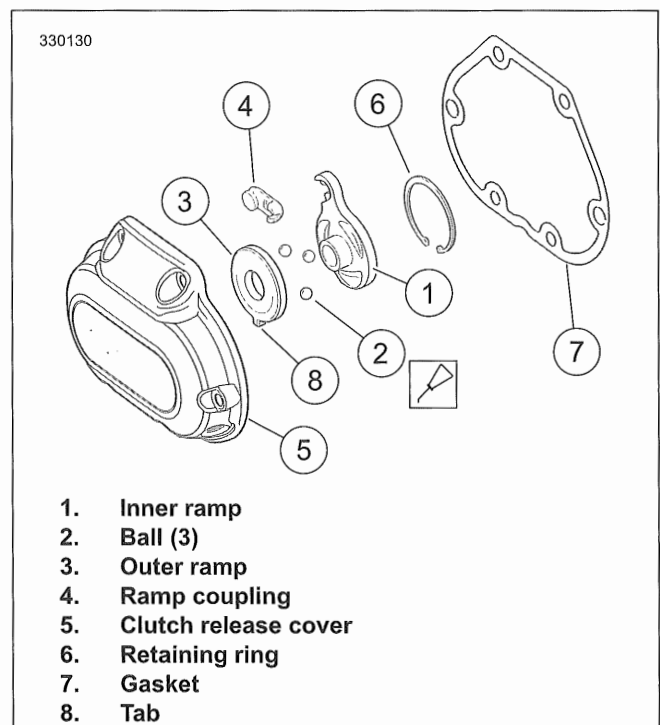

Figure 5-8. Release Mechanism Assembly
1. See Figure 5-8. Wash the ball and ramp mechanism components in cleaning solvent.
2. Inspect the three balls (2) and ball socket surfaces on ramps (1, 3) for wear, pitting, surface breakdown and other damage. Replace as necessary.
3. Check fit of the ramp coupling (4) on inner ramp (1). Replace both parts if there is excessive wear.
4. Inspect the retaining ring (6) for damage or distortion.
6. Check the bore in the clutch release cover (5) where the ramps (1, 3) are retained. There should be no wear that would cause the ramps to tilt, causing improper clutch adjustment.
3. See Figure 5-8. Place outer ramp (3) with ball socket side up in clutch release cover. Confirm tab (8) is in clutch release cover slot.